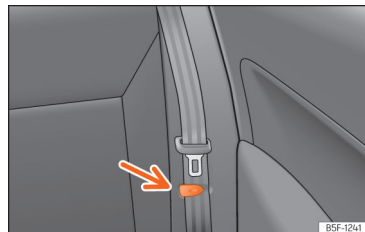

Fig. 95 Rear seat: clip to hold the seatbelt in place.
- Place the side seat belts in the trim clip »» **Fig. 95**.